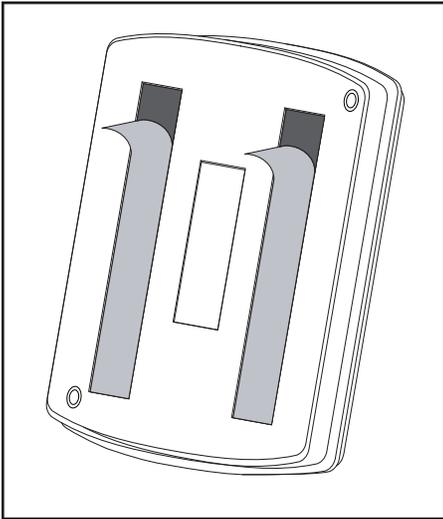

Figure 3: Velcro Mount
These instructions cover installing the housing on an interior wall. Figures 3 and 4 show the housing inside and outside views.
2. Remove the backing from the tape and place the housing in the desired location on the wall with the LED toward the top. See Figures 3 and 5.